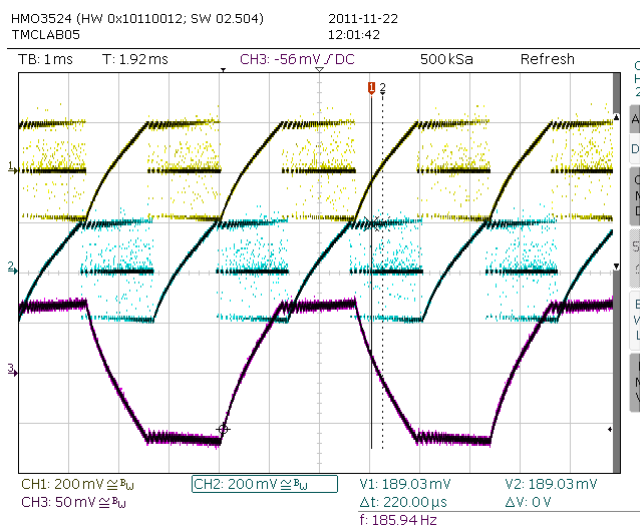

figure 5: Motor in fullstep operation (*CHM*=0); CH1 & CH2: Sense resistor voltages, CH3: Current probe coil A
2. Try switching the motor to fullstepping, if your driver supports it. Make sure, that the driver coils see a fixed current. Therefore it is important to switch to fullstep at or near the fullstep positions (TMC26x based drivers) – compare figure 5. Set *vhighfs* (for TMC562 based drivers).